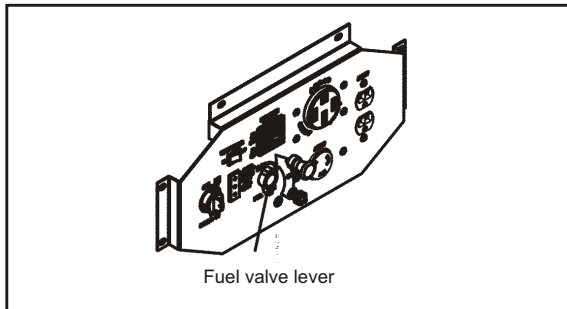

Fig.7 Fuel valve lever opening view
4.1 Turn the fuel valve lever to the ON position, see fig. 7.